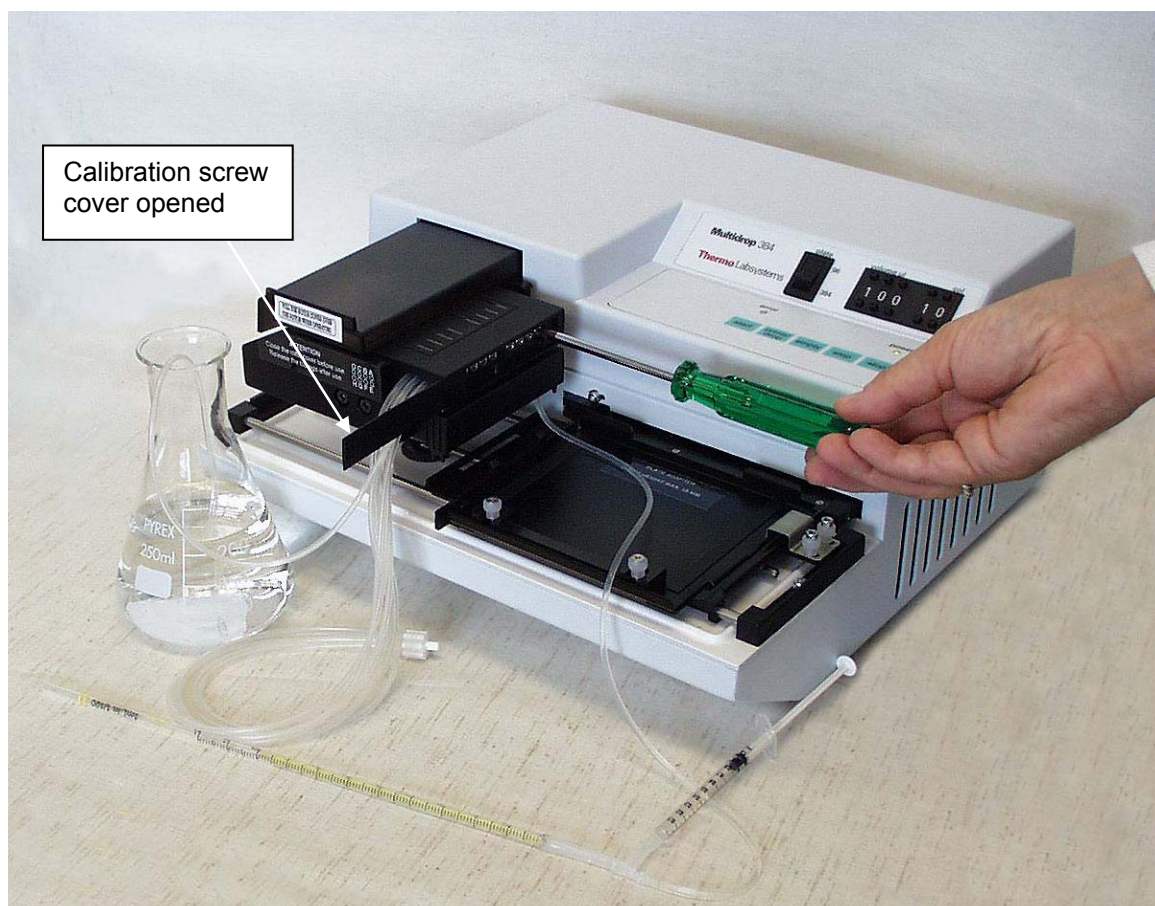

Fig. 7.7 Screwing the calibration screws according to the calibration results
7. Open the calibration screw cover on the upper part of the cassette (*Fig. 7.7* and *Fig. 4.4*).
13. If the volume is higher than 1000 μl , turn the calibration screw (*Fig. 7.7*) clockwise with a screwdriver; one turn for each 10 μl (1% from the volume dispensed); if the volume is lower than 1000 μl , turn in the opposite direction.